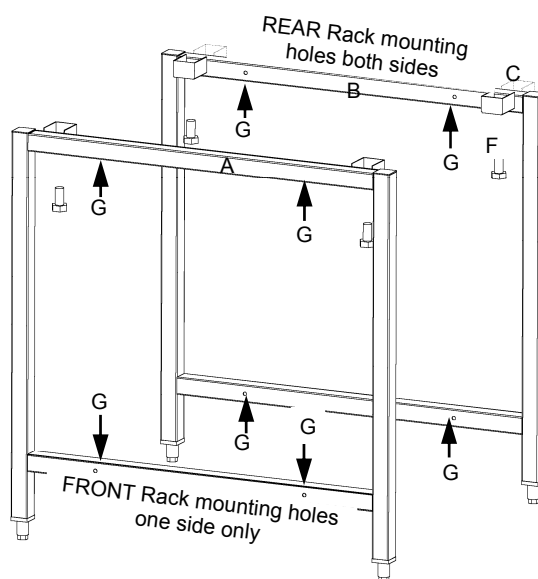

Figure B.2
- Take care which way around the frame is. For 26" oven have the oven supports facing the racks, for 30" oven have the supports (C) facing away from racks (refer figure B.2).